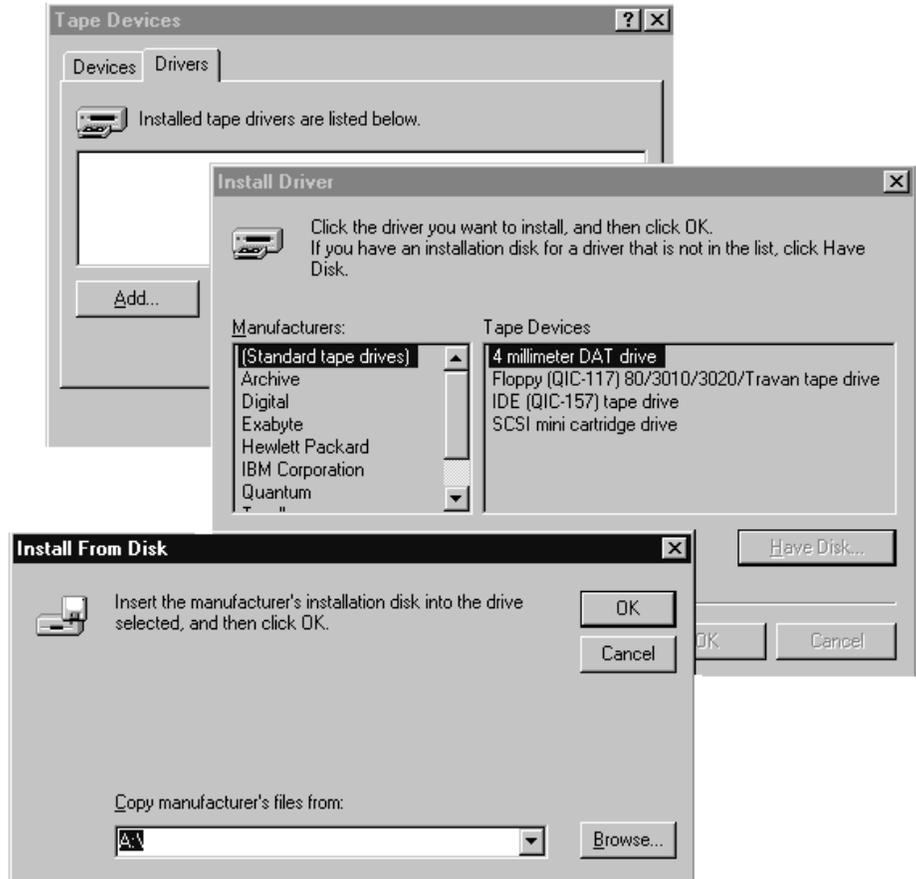

Figure 14. Have Disk Menu
7. If you installed the **Device Driver System Files** component in step 4 on page 142 , **skip to step 8** on page 148. If you did not install **Device Driver System Files** component, click **Have Disk** and enter the directory where your device driver setup file (IBMUltrium.inf) is located in the **Copy manufacturer's files from:** box. You may also **Browse** to select the directory. See Figure 14.